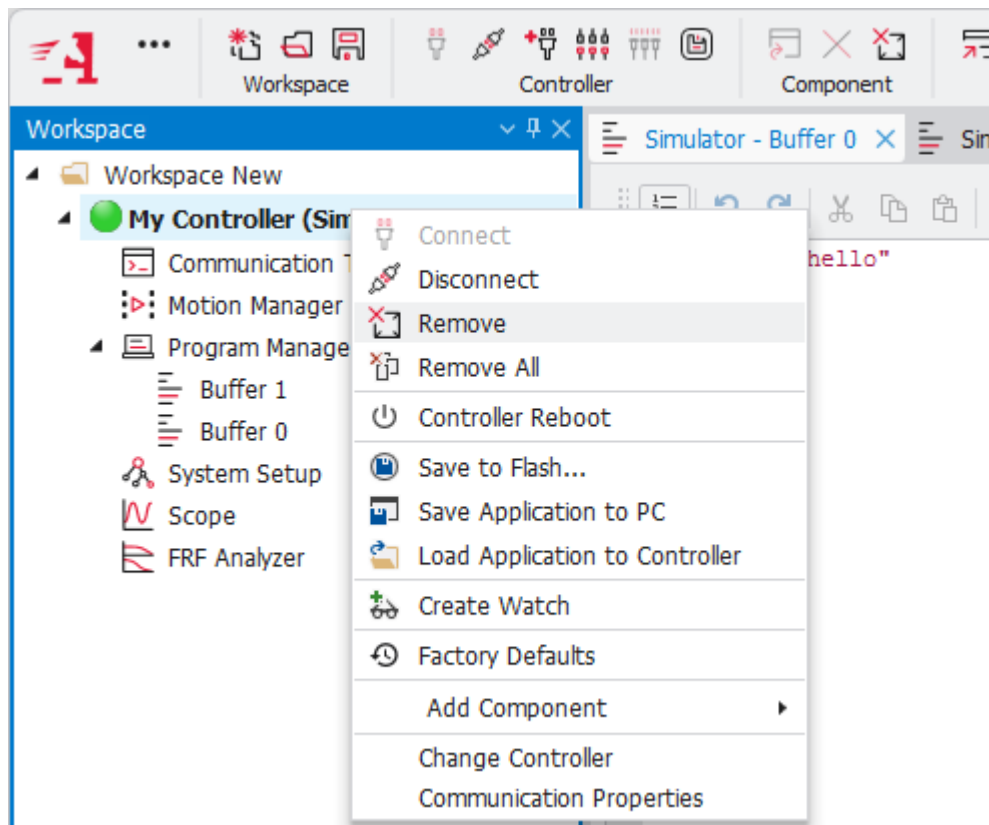

Figure 4-1. Remove My Controller (Simulator)
3. In the **Workspace** window, right-click on **My Controller (Simulator)**, then select **Remove** (see Figure 4-1).